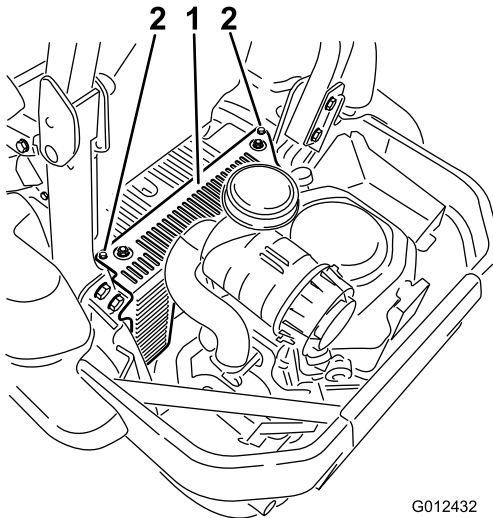

Figure 56
3. Remove the hydraulic-unit shroud and the 2 bolts attached to it (Figure 56).
5. Install the left-hand hydraulic-unit shroud (Figure 56).